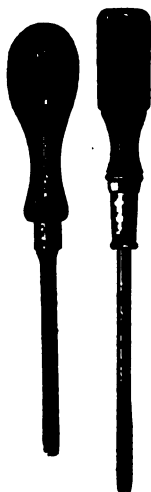

Fig. 126. Screw-drivers
**T**HE need of a screw-driver is too obvious to require special mention. They are made with blades from two inches up to thirty inches long, and have round, flat, or corrugated handles. The best grip is obtained on either a flat or corrugated one, and two sizes are desirable, a small one with about a three-inch blade, the other with an eight or ten. (Fig. 126.)